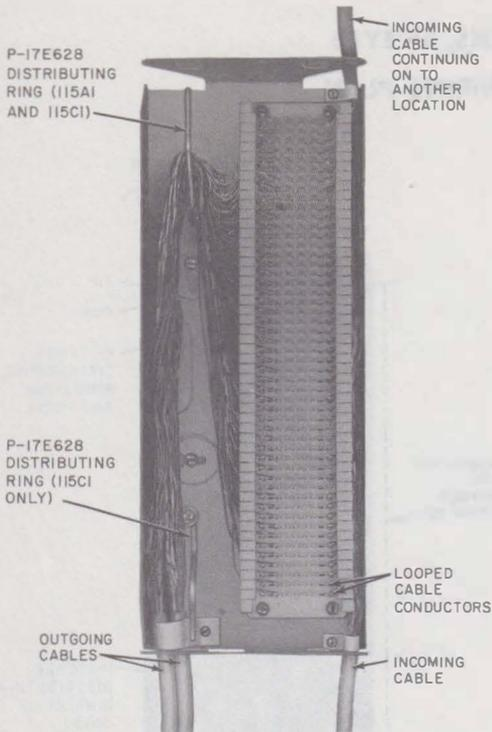

Fig. 2—66B4-25 Connecting Block Mounted in a 115A1 or 115C1 Apparatus Box (Cover Removed) Incoming Cable Looped Through
- (b) Fig. 2—revised.
- (2) Work excess slack toward loose end of incoming cable as terminating progresses.
3.02 Terminate an incoming cable which will loop to another terminal or location (Fig. 2) as follows: